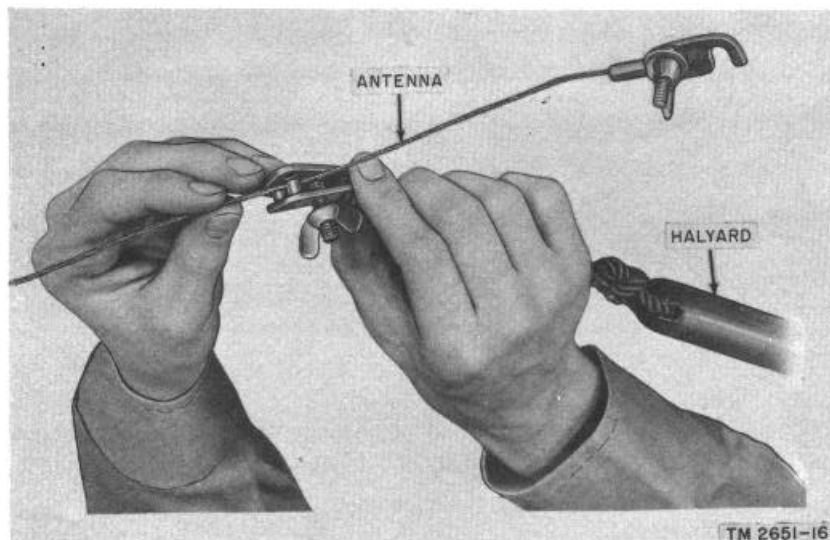

Figure 17. Attaching halyard to antenna wire.
- (1) *General.* The slanting wire antenna is usually one-half wave length long. Refer to paragraphs 12 and 13 for information on locating and siting the antenna and to table II for the proper length. When measuring the length, be sure to start at the transmitter, receiver, or tuning unit binding post and include the lead-in wire.
- (2) *Procedure.* After the direction and location of the antenna have been chosen, install the antenna as follows:
- (d) Fasten the insulator end of a second halyard about 6 inches from the end of the antenna wire (fig. 17), and secure the halyard to a stake or to the transmitter or receiver. Adjust the halyard to take all the strain of holding the antenna wire tightly. Allow the lead-in wire to sag, but do not allow it to touch the ground at any point.
- (d) Starting at the end of the lead-in wire, measure and unwind 40 feet of wire for the down lead (2) (e) above). At this point, attach the fastener of the near halyard insulator to the antenna wire (fig. 17).